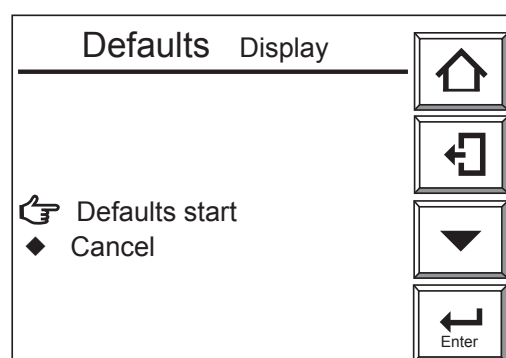

Figure 10.12 Initialization Start Display
- (3) Select the desired item to be initialized then a display like Figure 10.12 appears.